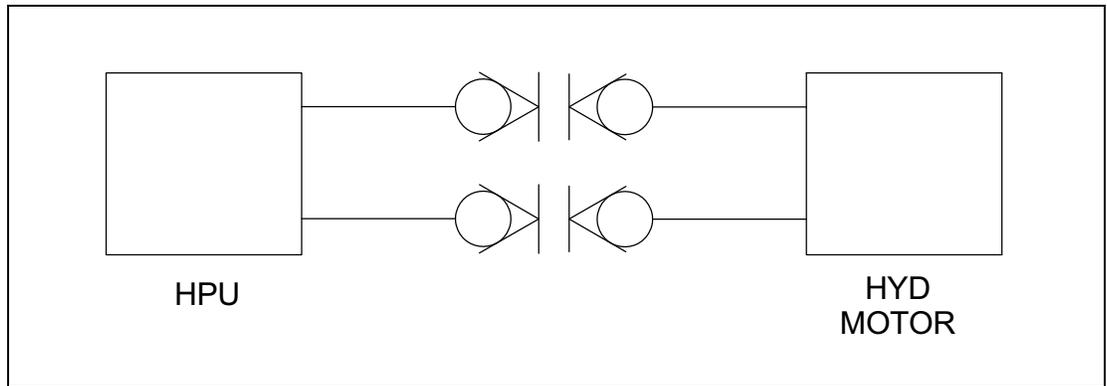

FIGURA B-3. P/N 80970 KIT HIDRÁULICO 6.2 CÚBICO EN MOTOR CON QD FTG FF6300
- FIGURA B-3. P/N 80970 KIT HIDRÁULICO 6.2 CÚBICO EN MOTOR CON QD FTG FF6300 - - - - - 114